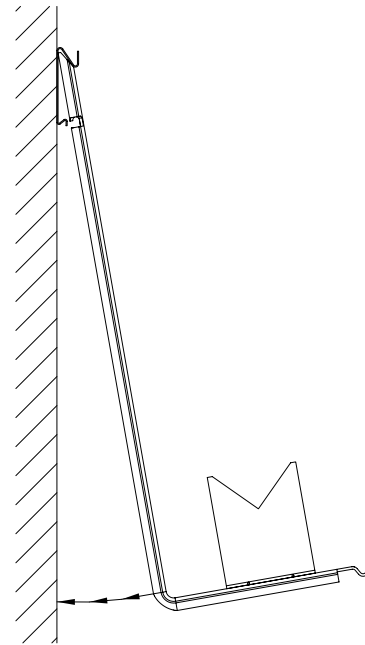

Figure W-3
3. Slip the snap expansion bracket into the snap mounting channel or full height backplate, and snap into place. (Figure W-3)